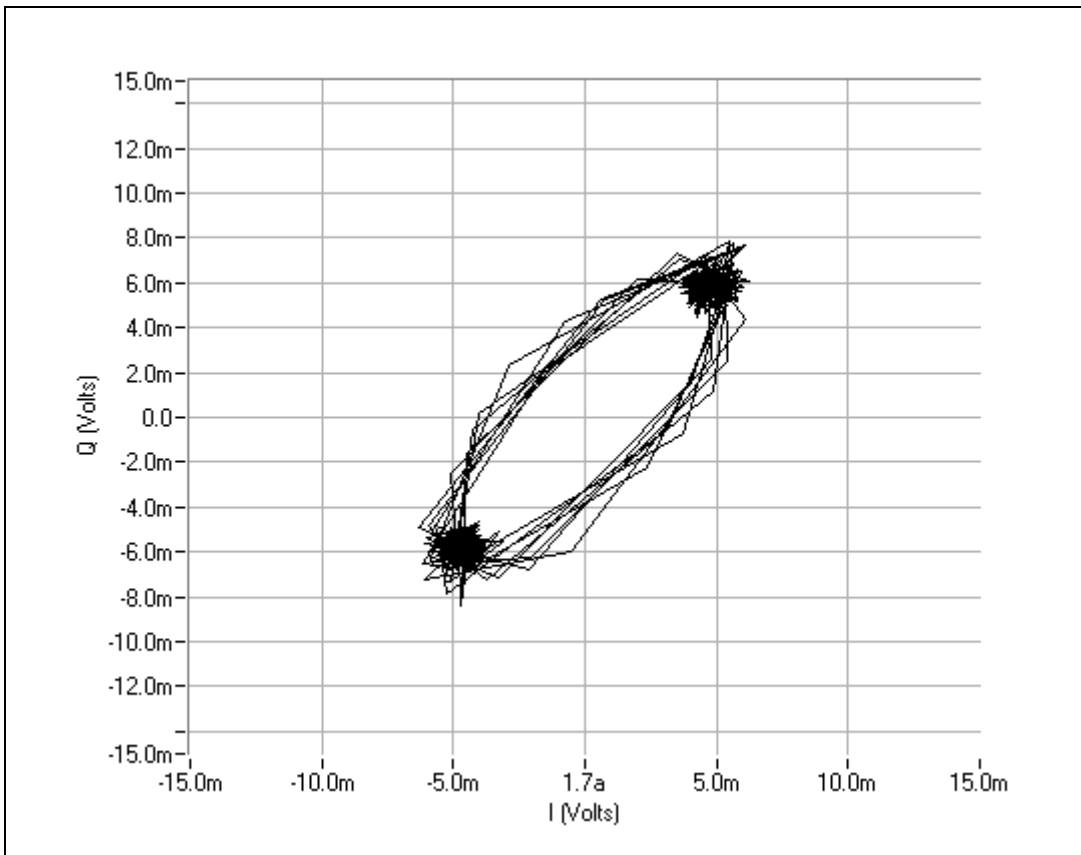

Figure 10. IQ Plot
You can use the SMT Cont Zoom FFT VI, located on the **Functions» Spectral Measurements» SMT Advanced» Zoom FFT** palette, to perform the continuous zoom FFT technique. This VI also outputs the complex modulated and filtered time-domain data corresponding to the spectrum. Figure 10 shows the in-phase (I) and quadrature-phase (Q) components of this complex time-domain data plotted on an I versus Q plot. The input signal is a phase-modulation (PM) wave. The PM signal is modulated with a square wave, with a carrier at 70 MHz. The RFSAs are tuned to the carrier frequency.